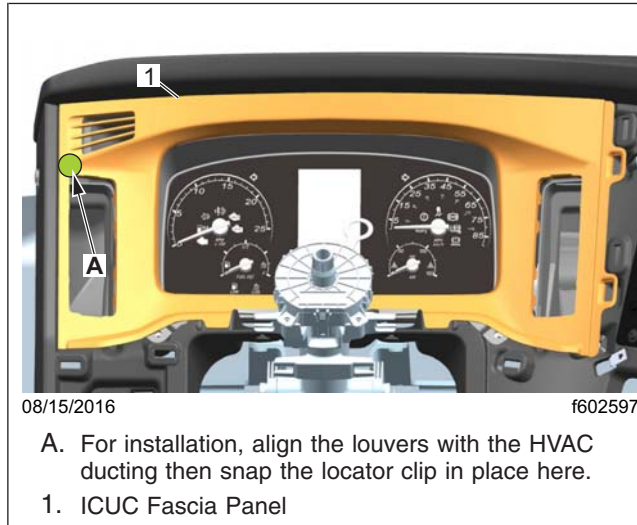

Fig. 4, ICUC Fascia Panel Removal and Installation
6. Remove the ICUC fascia panel, shown in Fig. 4 , by pulling the clips loose from the dash.
12. Snap the upper right (locator) clip of the auxiliary instrument panel (B-panel upper fascia) in place as shown in Fig. 4, then snap the remaining clips in place.